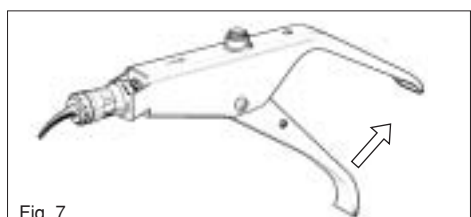

Fig. 7
b) Make 2 strokes with lever to prime the capsule. Make the third stroke slowly to check if the cement is extruded in the nozzle. Direct the capsule nozzle into the restoration or prepared tooth cavity and make slowly the fourth stroke to allow smooth dispensing of the cement (Fig. 7). Avoid putting too much force onto the applicator.